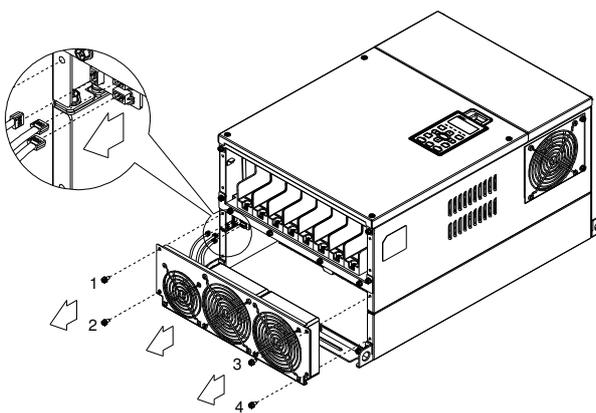

Figure 2
1. Loosen screw 1~4 (figure 2) and disconnect fan power and pull out the fan. (As shown in the enlarged picture 2) Screw1~4 『 Torque : 24~26kgf-cm (20.8~22.6lb-in) 』